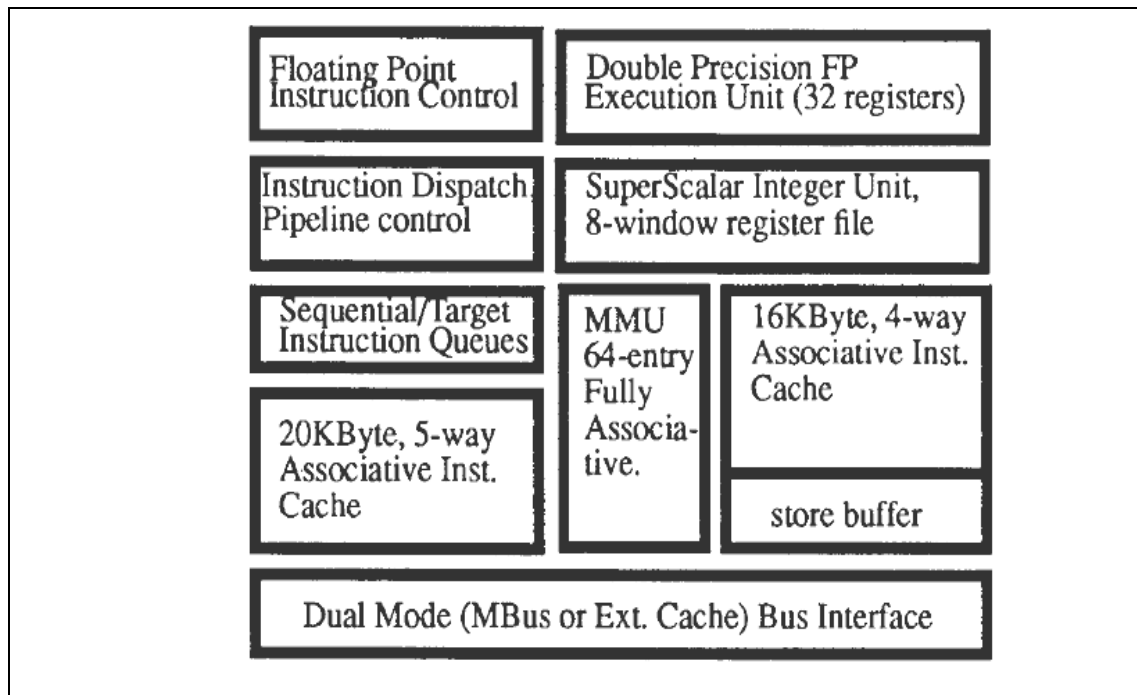

Fig. 2-29(c). Block diagram of a SuperSPARC processor
A SuperSPARC microprocessor is a superscalar SPARC microprocessor, which is compatible with the SPARC V8 (version 8) architecture. A block diagram of the device is shown in Figure 2-29. The processor contains an integer unit (IU), double precision floating point unit (FPU), fully consistent instruction and data caches, a SPARC reference Memory Management Unit (MMU), and a dual mode bus interface.